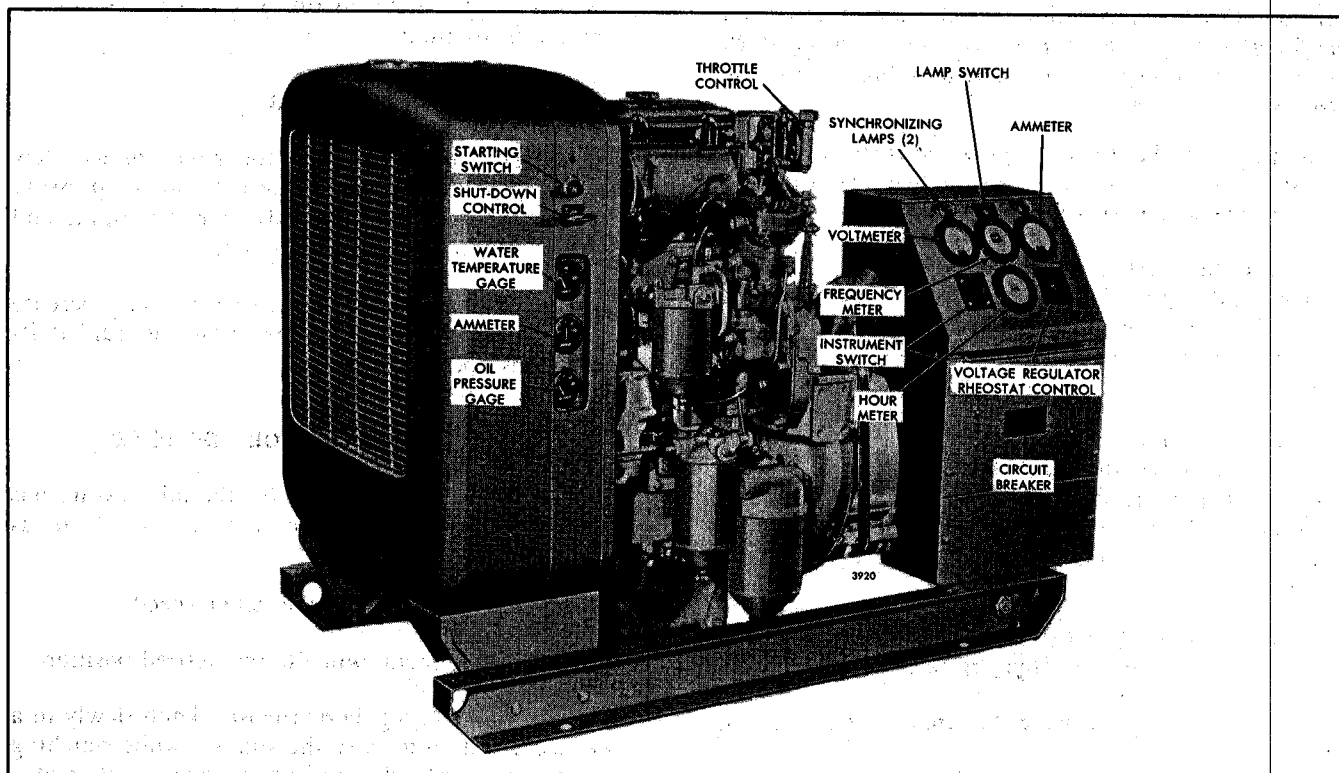

Fig. 1 - Location of Controls on Power Generator Set
These instructions cover the fundamental procedures for operating an alternating current power generator set (Fig. 1). The operator should read these instructions before attempting to operate the generator set.
4. Refer to Fig. 1 and place the circuit breaker in the **off** position.
Press the throttle button and turn the throttle control (Fig. 1) counterclockwise to a position midway between **run** and **stop**. Then, press the starting switch firmly.
1. Prepare the generator set to be paralleled as outlined under *Preparation For Starting, Starting, Running* and items 1 through 4 under *Preparing Generator for Load*.
2. Check the voltmeter (Fig. 1); the voltage must be the same as the line voltage. Adjust the voltage regulator rheostat control if the voltages are not the same.